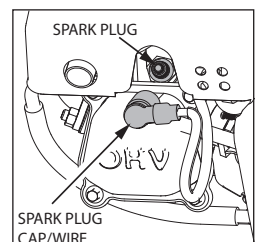

**FIGURE 16**
3. Remove pulley box cover by removing four cover bolts. **SEE FIGURE 16.**
3. Remove pulley box cover by removing four bolts. **SEE FIGURE 16.**